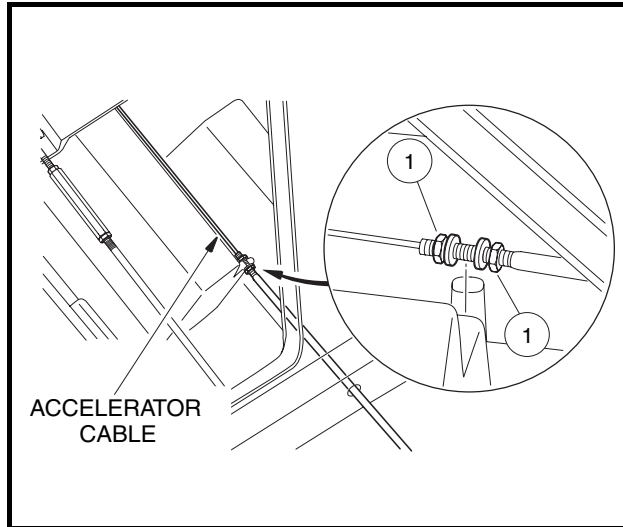

Figure 16-13 Throttle Cable Mounting
- 4.5. Disconnect the throttle cable from the pedal group. **See Pedal Group Removal, Section 5, Page 5-1.** Loosen the cable mounting nuts (1) and ensure the cable can move freely through the hole in the frame (**Figure 16-13, Page 16-9**).